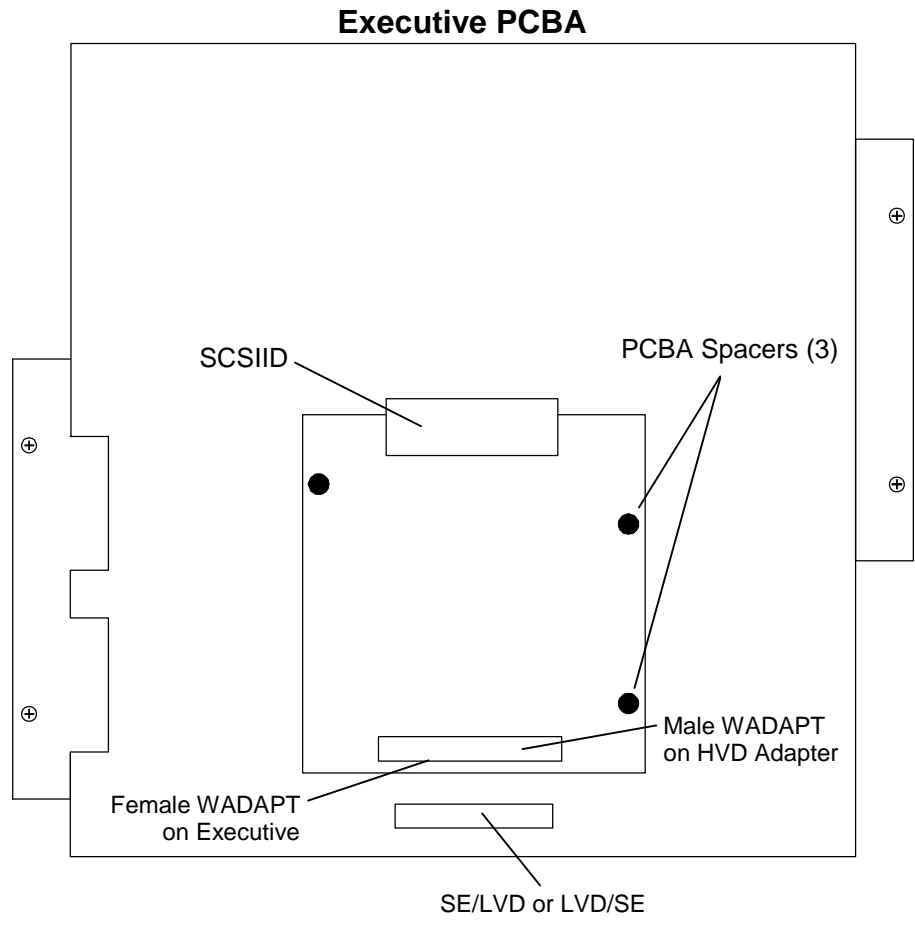

Figure 7-77 HVD Adapter PCBA
3. Disconnect the SCSI cable from connector SCSIID on the HVD Adapter PCBA (Figure 7-77).
4. Gently pull the HVD Adapter PCBA away from the Executive PCBA (Figure 7-77).
1. Insert all three PCBA spacers on the HVD Adapter PCBA into the mounting holes in the Executive PCBA making sure that the female WADAPT connector is aligned with the male ADAPT connector on the Executive PCBA. See Figure 7-77.
3. Connect the SCSI Cable Assembly to connector SCSIID on the HVD Adapter PCBA (Figure 7-77).